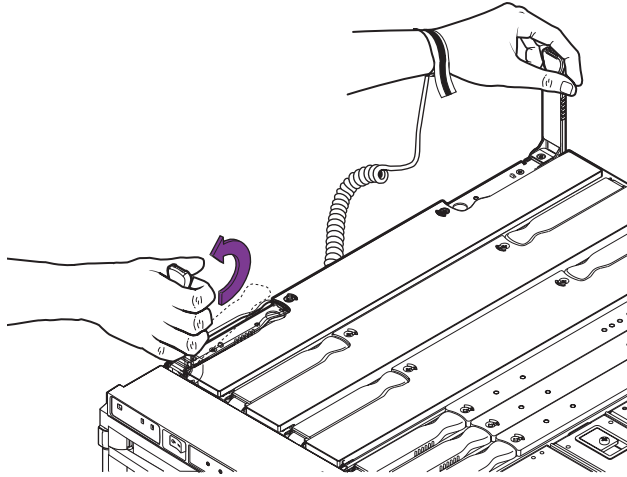

FIGURE 9-4 Raising the CPU/Memory Board Ejector Levers
9. Raise the ejector levers simultaneously until they are 90 degrees straight out from the board (FIGURE 9-4).